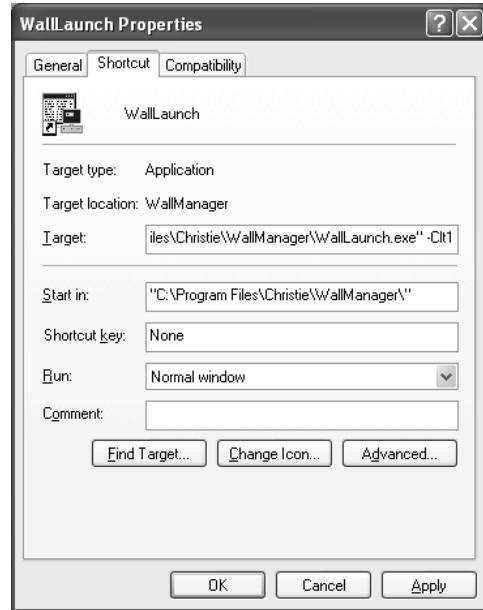

Figure 7.24. WallLaunch Properties: Shortcut window (sample)
- 3) In the **Properties** window, select the **Shortcut** tab. The **Shortcut** window will appear (Figure 7.24.)
- 4) At the end of the existing **Target** string, add one of the character strings as shown in **bold** in Figure 7.24.